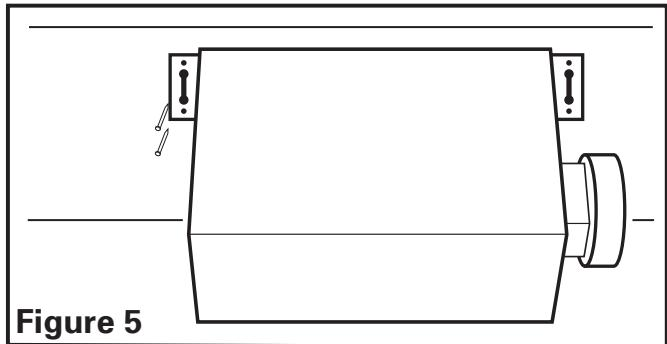
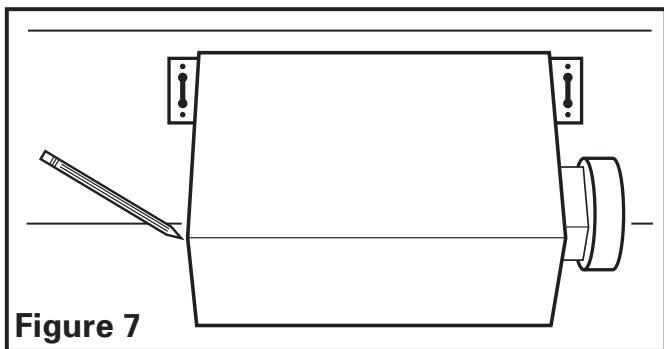

Figure 5
Figure 7
- 1a. **Mounting Tab Installation:** Line up housing so that it will be flush with the finished ceiling. Position the fan so that the tabs rest flat against the joist and secure with screws or nails (not provided) to ensure proper installation (**Figure 5**).
1a. **Mounting Tab Installation:** Position housing against the joist and trace an outline of the housing onto the ceiling material (**Figure 7**). Set housing aside and cut opening, being careful not to cut or damage any electrical or other hidden utilities. Place housing next to the joist and insure that it is flush with the finished ceiling. Secure with screws or nails (not provided) to the joists (**Figure 5**).